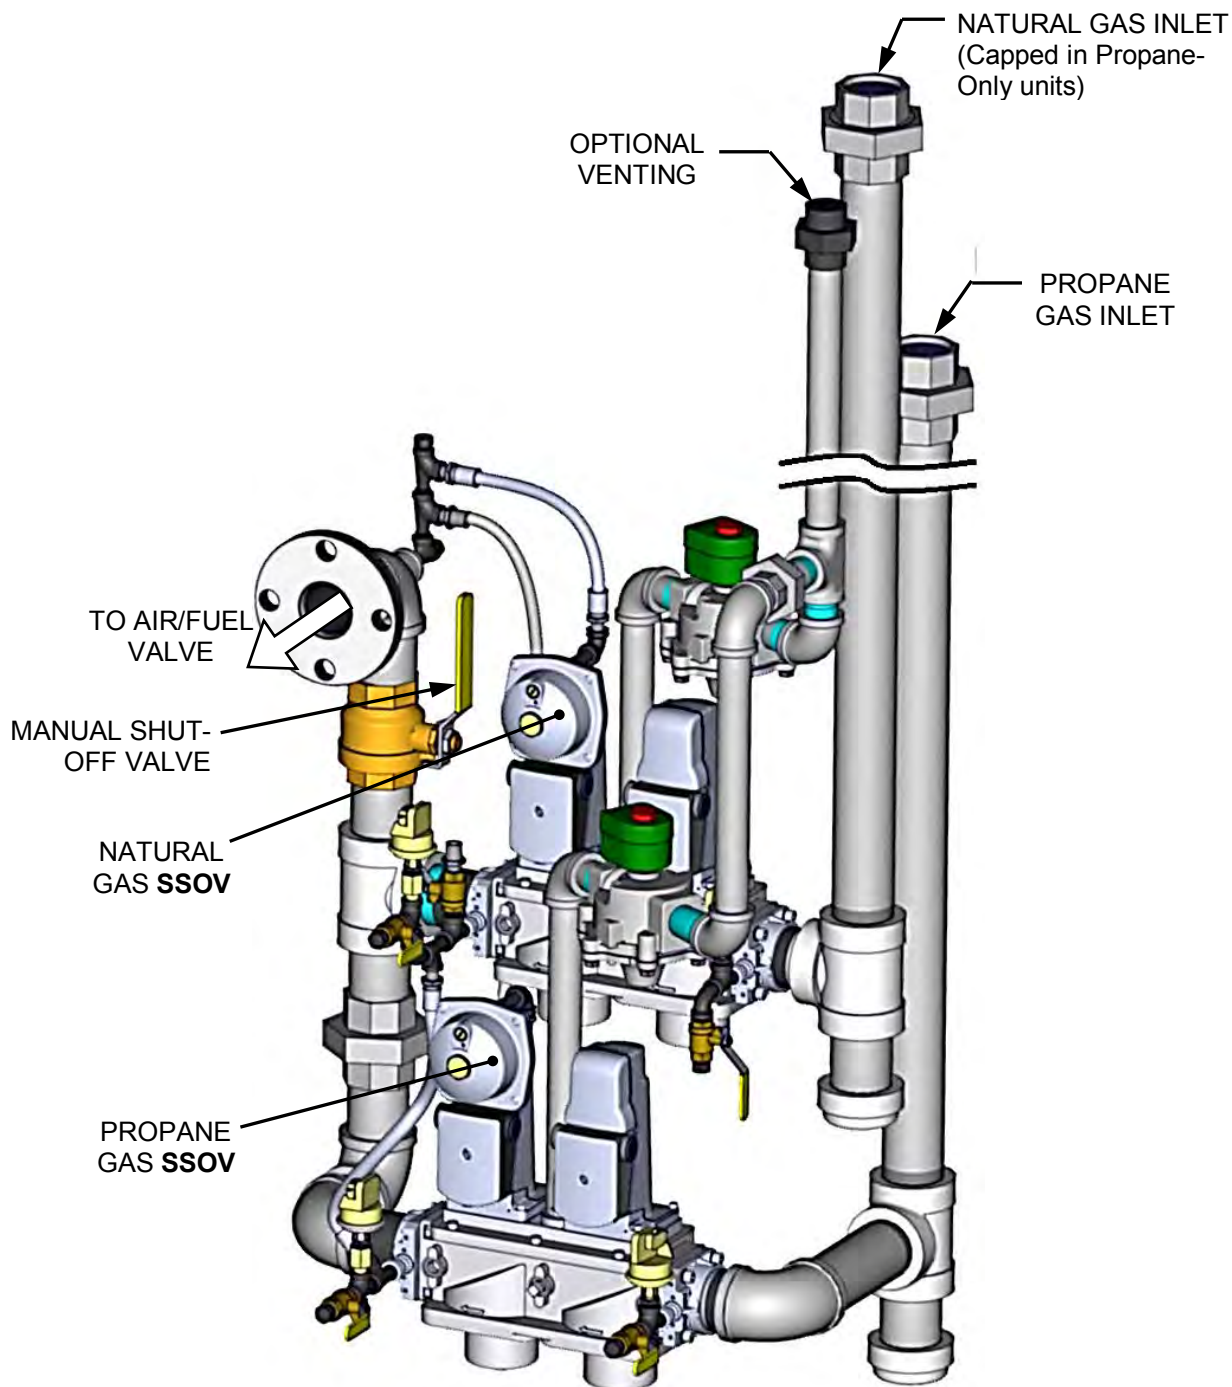

Figure 3-3: SSOV Locations (BMK 3000DF DBB Gas Train Pictured)
2. The unit checks to ensure that the Proof of Closure (POC) switch in the downstream Safety Shut-Off Valve (SSOV) is closed. See Figure 3-3 for SSOV location.